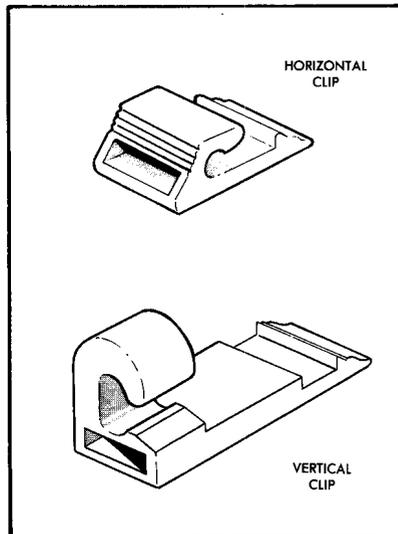
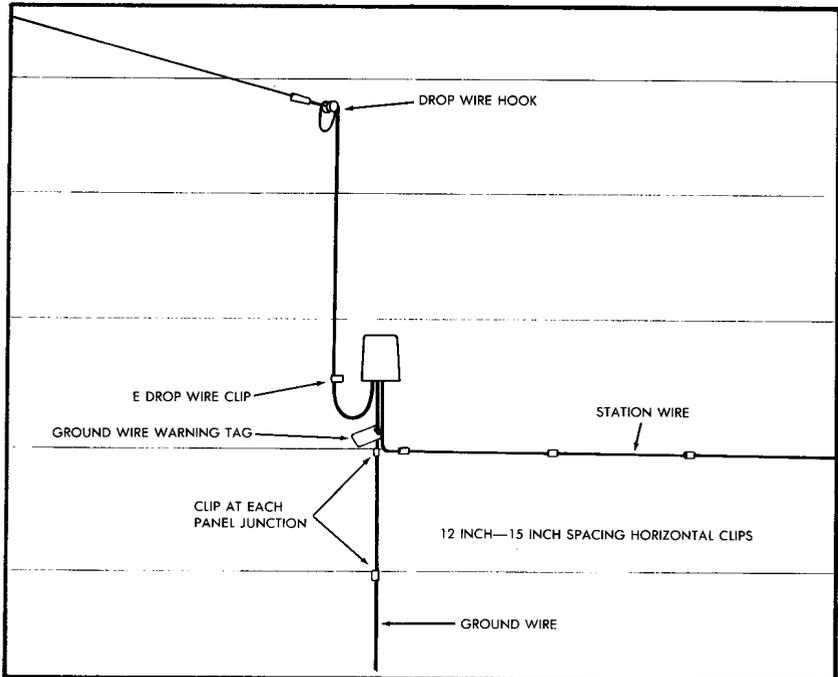

FIGURE 3.
FIGURE 4. Fuseless Protection on Aluminum or Vinyl Siding
5.03 Station Wiring: Wherever possible, use the plastic, metal siding clip (see Figure 3) for all horizontal and vertical station wire and ground wire runs. This will eliminate the need for metal clamps and screws. Vertical clips should be used at each panel lap joint. Horizontal clips should be placed at 12 to 15 inch intervals. See Figure 4. To install either the horizontal or vertical siding clip, use the following procedures: